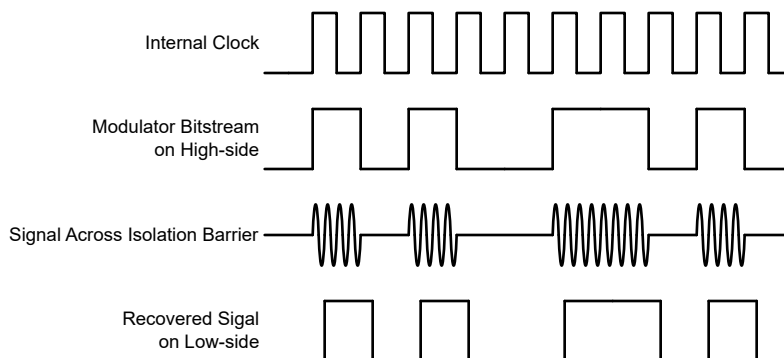

Figure 7-1. OOK-Based Modulation Scheme
The AMC1301-Q1 uses an on-off keying (OOK) modulation scheme, as shown in Figure 7-1, to transmit the modulator output bitstream across the SiO₂-based isolation barrier. The transmit driver (TX) shown in the *Functional Block Diagram* transmits an internally generated, high-frequency carrier across the isolation barrier to represent a digital *one* and does not send a signal to represent a digital *zero*. The nominal frequency of the carrier used inside the AMC1301-Q1 is 480 MHz.